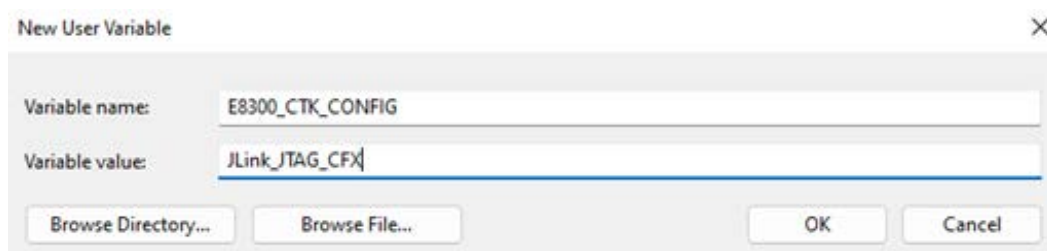

Figure 13. Creating/Updating the Environment Variable
2. Create/update the Ezairo 8300 environment variable (`E8300_CTK_CONFIG`) to use the new configuration, as shown in the figure "Creating/Updating the Environment Variable" (Figure 13).